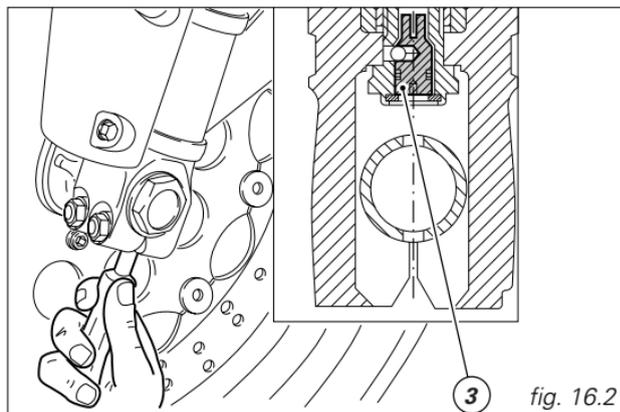

fig. 16.2
- 3) (fig. 16.2) to adjust compression damping.